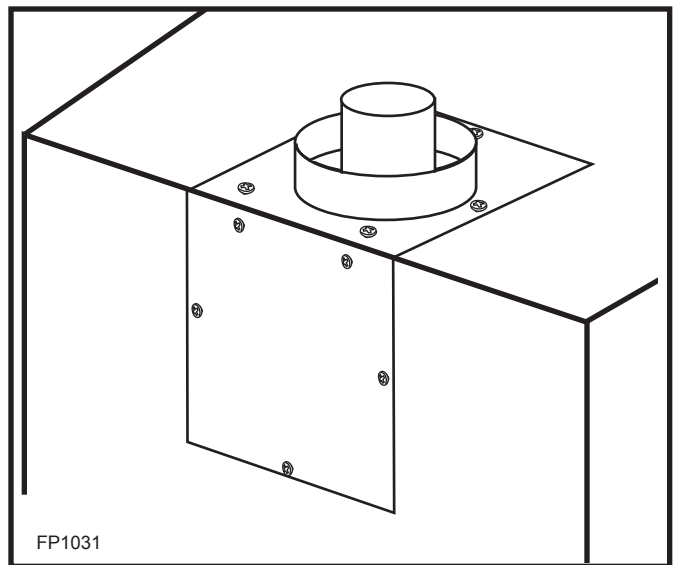

**Fig. 12** Remove flue cover and flue pipe.
3. Remove insulation from top of unit and discard. Remove the four (4) screws securing flue cover to top of unit and remove flue cover. (Fig. 12)
4. Remove the four (4) screws securing flue pipe to back of unit. Remove flue pipe. (Fig. 12)